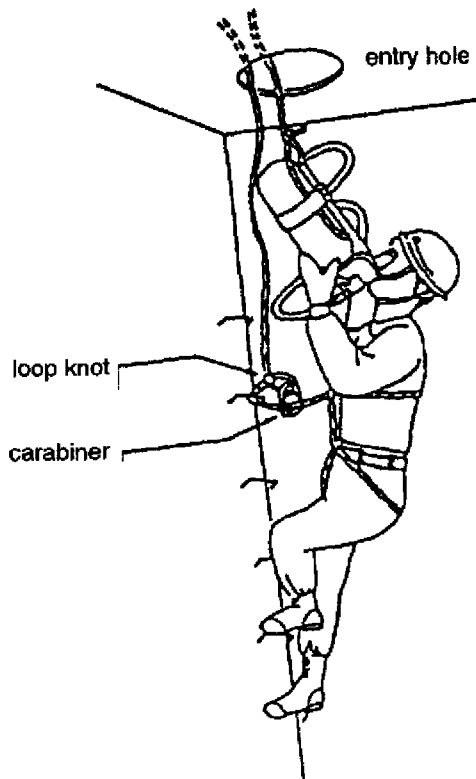
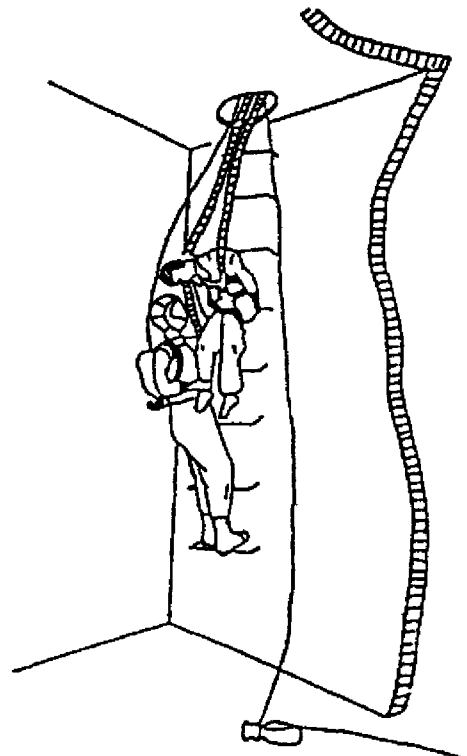

Fig. 7-33
Fig. 7-34
- b. After passing through the opening, the rescuer clips the lifeline carabiner to the load-bearing point to secure his body, puts on the breathing apparatus that has been lowered down, unclips the carabiner and enters. (Fig. 7-33)
(5) Rescue
- b. For the rescue, have the firefighters outside the tank lift the victim out, using the carrying rescue technique. (Fig. 7-34)